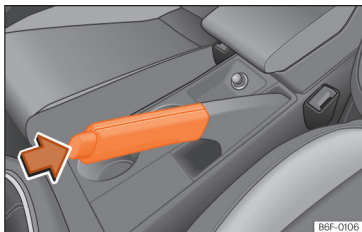

Fig. 118 Handbrake between the front seats.
- Pull the handbrake lever up »» Fig. 118.
- Pull the lever slightly up, press the unlock button in the direction of the arrow »» Fig. 118 and lower the lever completely »» △.